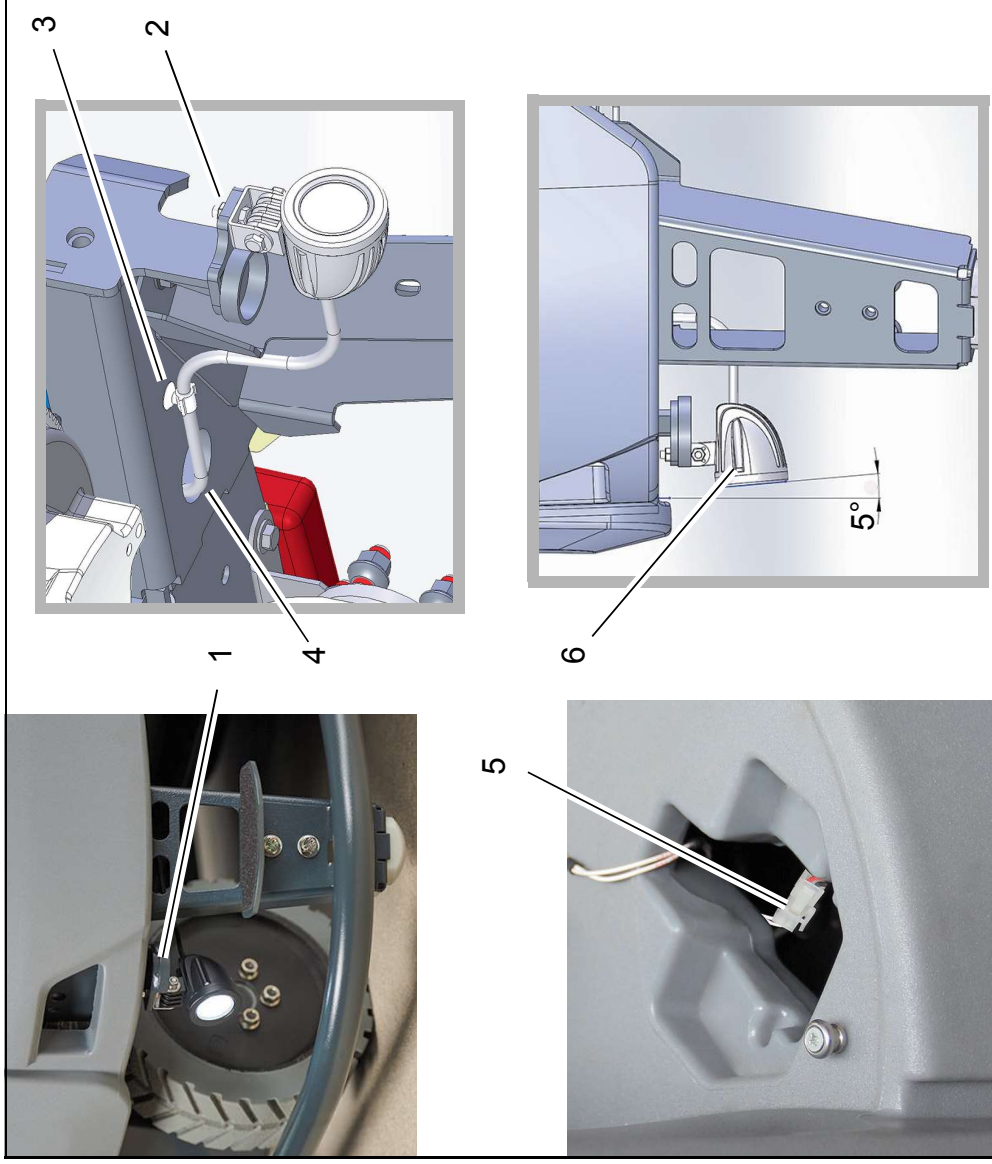

Fig. 2
The working light is installed on the left next to the front wheel (Fig. 2/1).
1. Fit working light to holder of chassis (Fig. 2/2).
2. Insert corrugated hose holder into existing hole (Fig. 2/3).
4. Lead cable through floor opening into the interior (Fig. 2/4).
5. Connect plug of working light to 2-pin connector E01 of cable loom W 3 (Fig. 2/5).
Align working light so that it is straight-ahead in the direction of travel. Set tilt angle to approx 5° (Fig. 2/6).